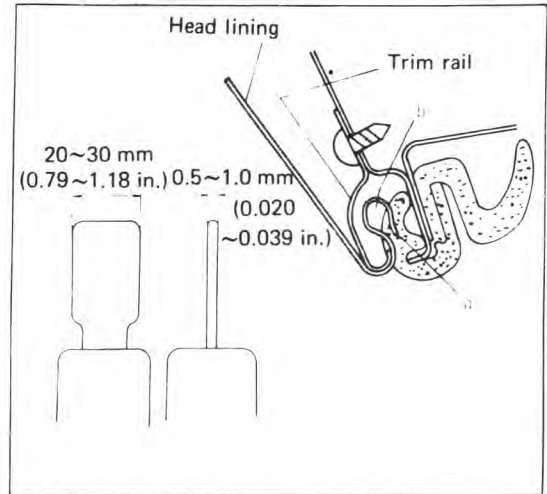

Fig. 13-111 Special tools
- 4 : Pull out part a, as shown in Fig. 13-111, on the left and right side with a screwdriver and radio pliers; while holding part a, insert the special tool into part b, while pushing it upward and head lining can be withdrawn if parts a and b are pulled out together.
10 : Firstly, according to the five positions of the seam, pull from the front in order and from the center of the vehicle to the sides, so that wrinkles do not form, insert by using the special tool as shown in Fig. 13-111 in the reverse procedure of removal, item 4. Next, insert in places other than the seams, it is not necessary to insert all of the head lining, after suitable stretching stop inserting, cut off the part not yet inserted and fully insert the remaining parts with the special tool.